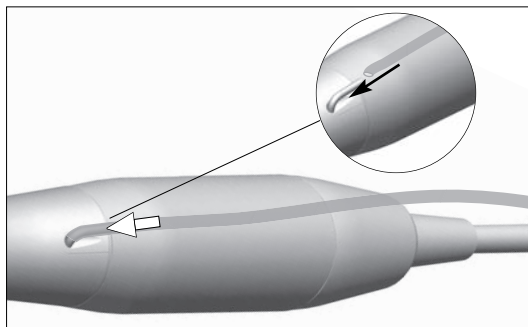

fig. 7
I. Connect the flexible hose of the irrigation line to the spray tube of the handpiece or contra-angle **fig. 7**.